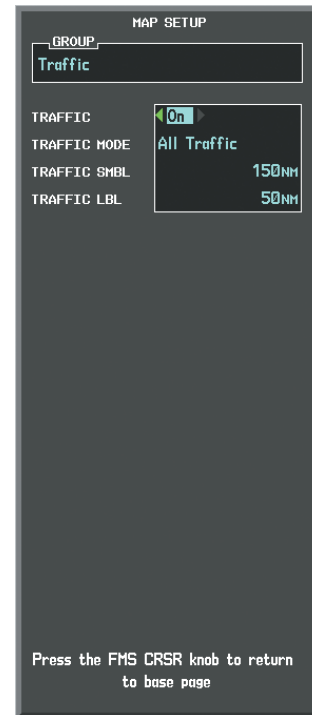

Figure 6-179 Navigation Map Page Setup Menu, Traffic Group
- 5) Turn the large **FMS** Knob or press the **ENT** Key to scroll through the selections (Figure 6-179).